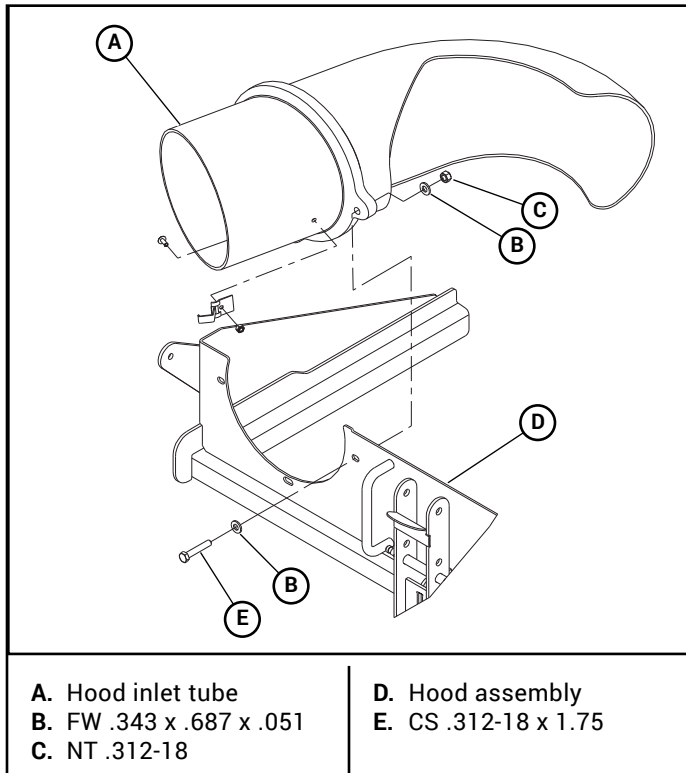

Figure 3-41
1. Insert the hood inlet tube into the opening in the hood assembly and bolt in place. Make sure the tube is oriented per the illustration. Figure 3-41